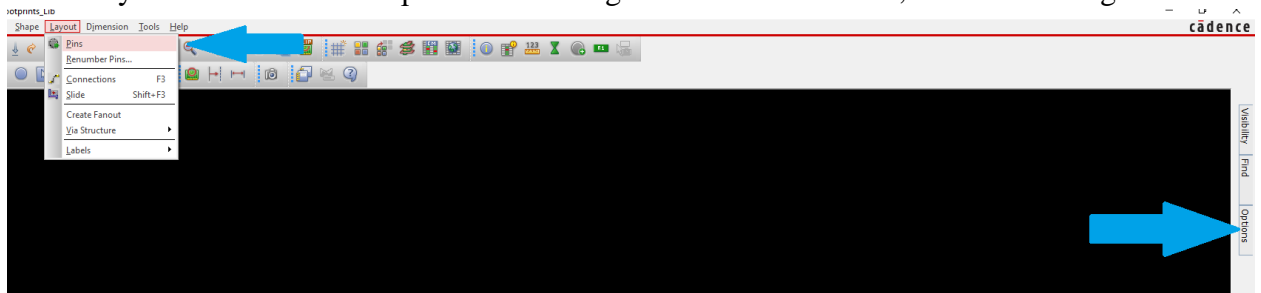

Fig. 6.
8. Click Layout -> Pins. Click 'Options' on the right side of the window, as shown in Fig. 6.